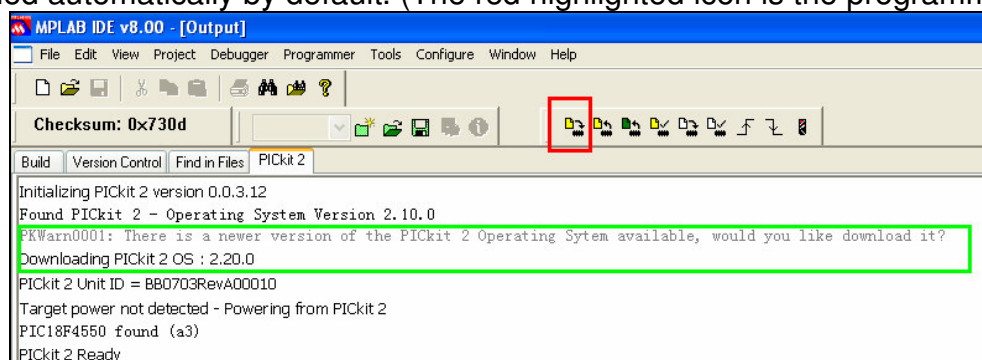

Figure 14 PICkit 2 is connected and ready
6. PICkit 2 will initialize and a message "PICkit 2 Ready" will show up, as shown in figure 14. Note: the message in the green frame may not display, it depends if there is a newer version of PICkit 2 operating system or not. Whenever there is a newer version available, it will be downloaded automatically by default. (The red highlighted icon is the programming icon.)